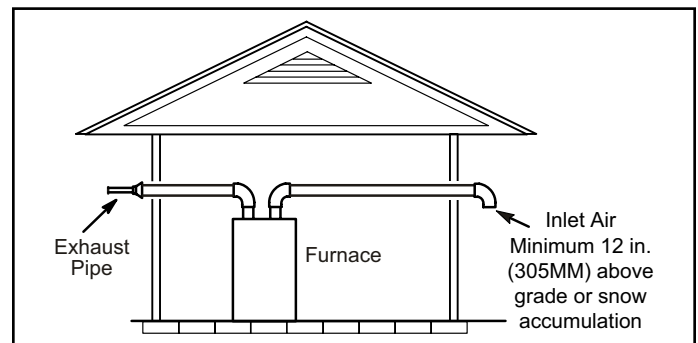
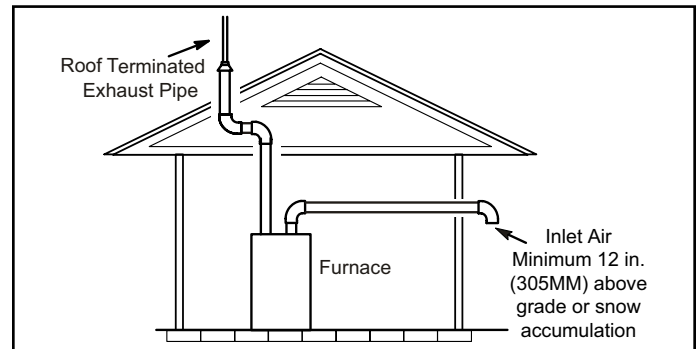

Figure 35. Exiting Exhaust and Intake Vent (no common pressure zone)
Figure 36. Exiting Exhaust and Intake Vent (no common pressure zone)
1. Intake and exhaust terminations are not required to be in the same pressure zone. You may exit the intake on one side of the structure and the exhaust on another side (Figure 35). You may exit the exhaust out the roof and the intake out the side of the structure (Figure 36).